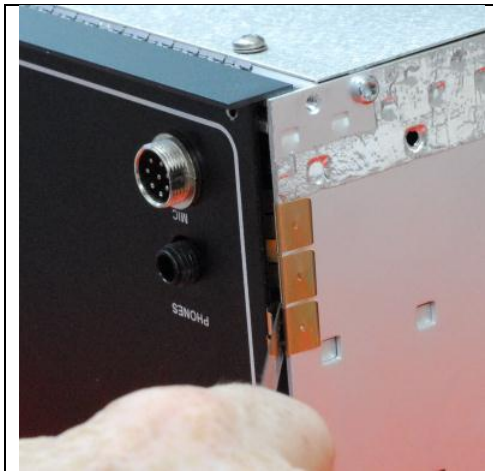

Figure 23
- b. Now push the “fingers” behind the front panel. See Figure 23